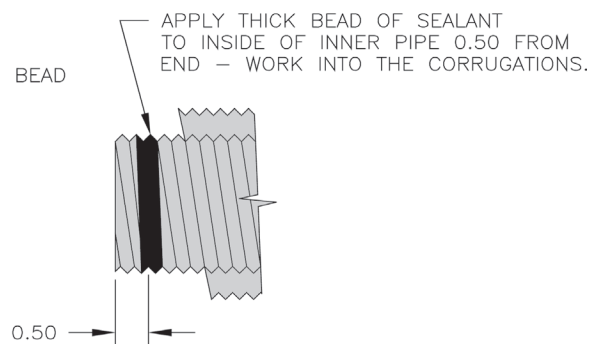

Figure 23: Vent Pipe Ends, Vent Termination and Appliance Adapter Sealing
- Apply sealant; firstly, between the stop bead and retainer bead at the end of the vent termination inner pipe; secondly, between the stop bead and retainer bead at the end of the appliance adapter. See Figure 23.
- Apply a thick bead of sealant to inside of each end of the inner vent pipe, 1/2" from pipe end, working the sealant into the inner vent pipe corrugations. See Figure 23.